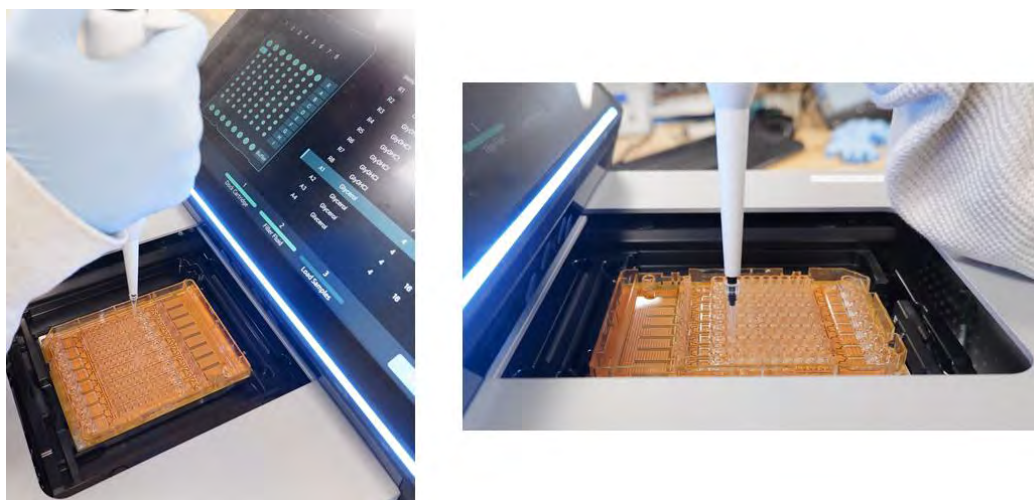

Figure 5.37: Loading samples into the cartridge.
4. Once the sample is loaded in the pipette, lower the pipette tip into the appropriate cartridge well (Figure 5.37).